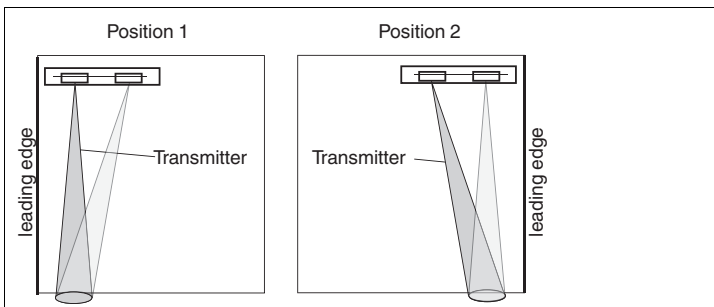

Figure 5.1 Explanation of the monitoring beam setting on the leading edge
1. Set the emitters of the modules identically on all modules to be used. -> Always push the emitter adjustment toward the door hinge side (the door hinge side is opposite the leading edge) → see Figure 5.1 on page 10.